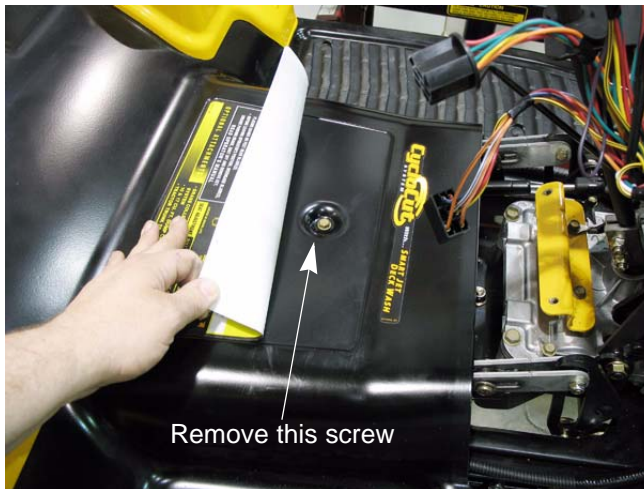

Figure 4.17
- Remove the screw from the center of the fender. See Figure 4.17.